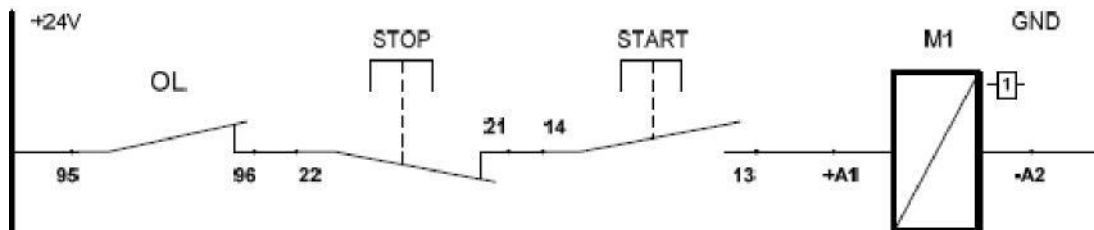
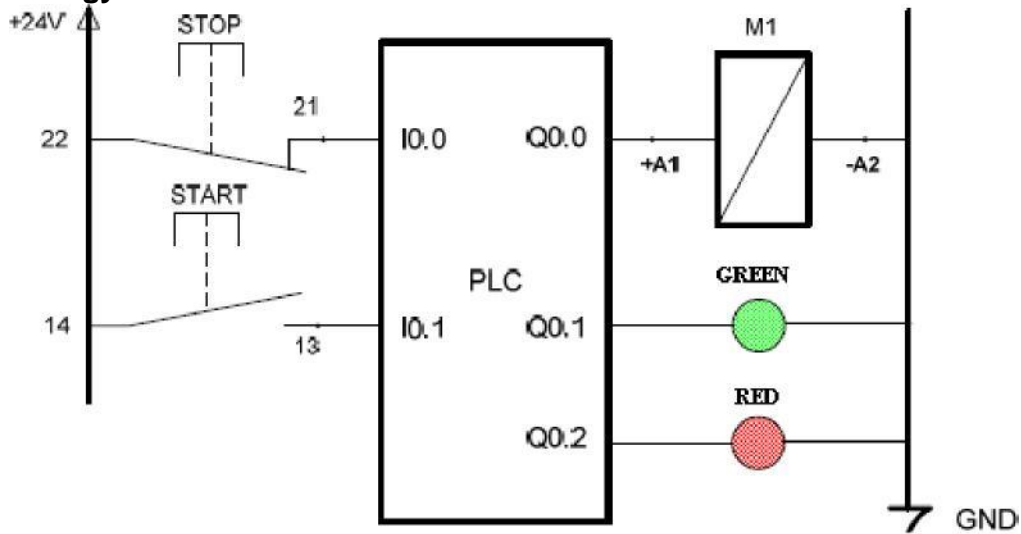

Figure 10: Controller circuit to operate the asynchronous motor intermittently
Figure 13: PLC connection to run an asynchronous motor intermittently with PLC.
1. Make the connections with 4 mm test cables according to controller circuit in the figure 10.
9. Undo the controller circuit in Figure 10 however leave power circuit as it is. In place of controller circuit, install the circuit again according to the PLC technology schema in figure 13. Make PLC inputs/outputs with 4 mm test cables over PLC I/O LINK module.